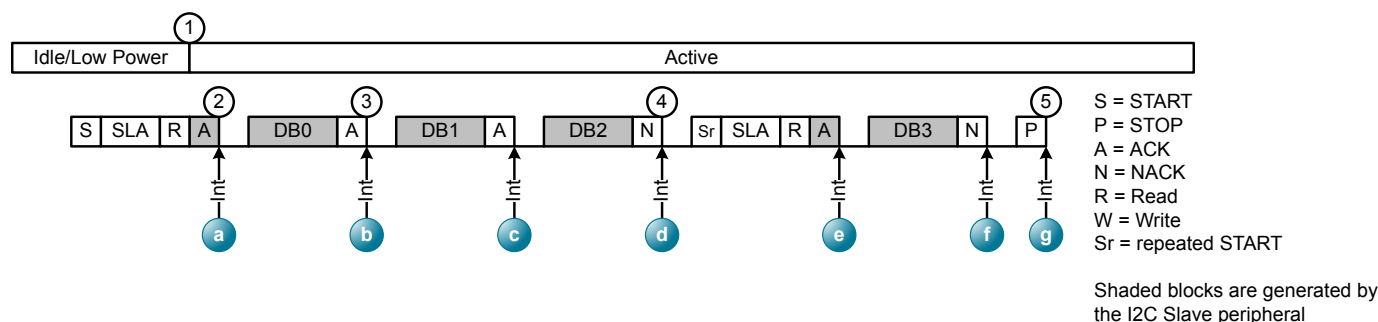
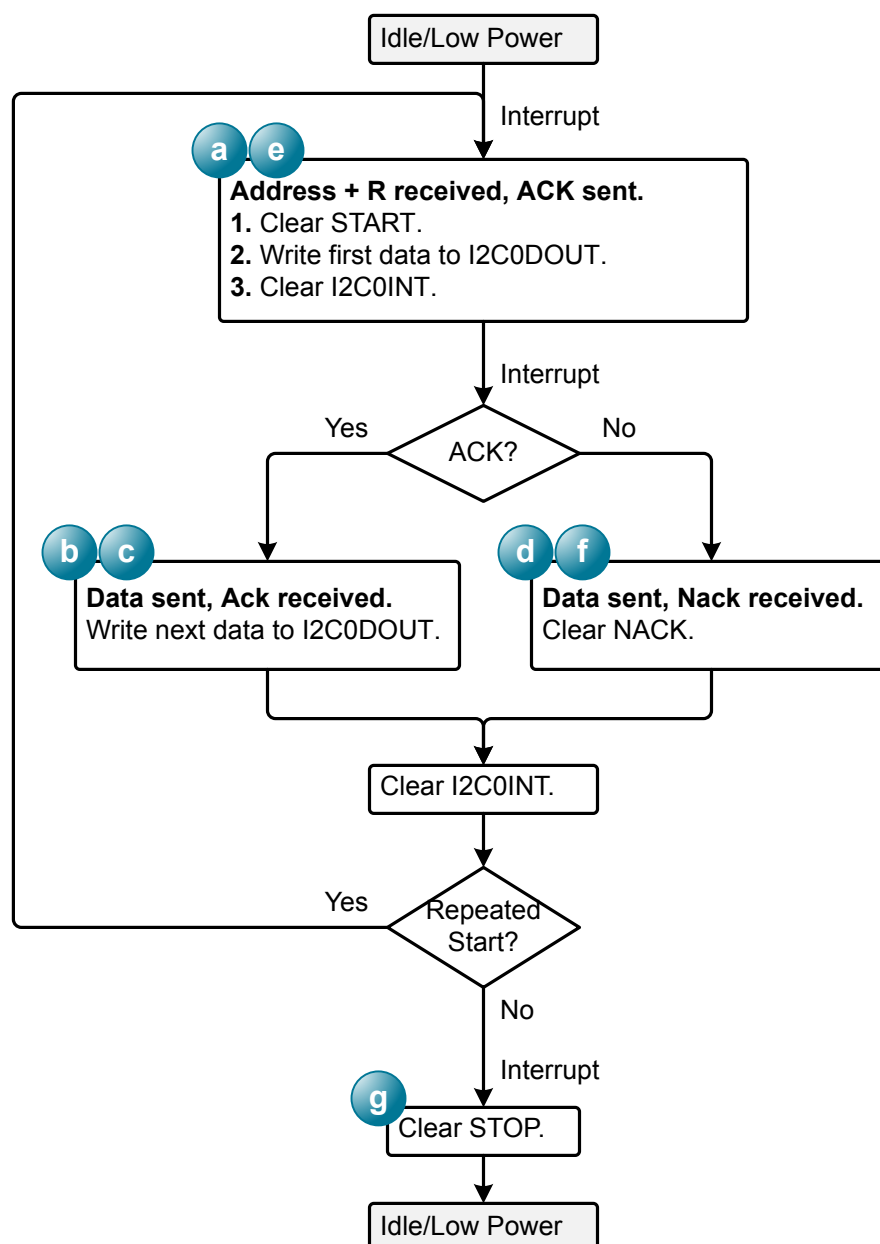

Figure 15.7. Example I2C Read Sequence with the I2C Slave Peripheral
Figure 15.8. I2C Read Flow Diagram with the I2C Slave Peripheral
2. An interrupt occurs after the automatic ACK of the address. The I2C peripheral holds the SCL line low for clock stretching until firmware clears I2C0INT. Firmware should read the data from the master and take the actions indicated by Figure 15.8 I2C Read Flow Diagram with the I2C Slave Peripheral on page 183.
Figure 15.7 Example I2C Read Sequence with the I2C Slave Peripheral on page 182 demonstrates an example sequence, including a repeated start, and Figure 15.8 I2C Read Flow Diagram with the I2C Slave Peripheral on page 183 describes the I2C Read sequence and firmware actions in each interrupt.